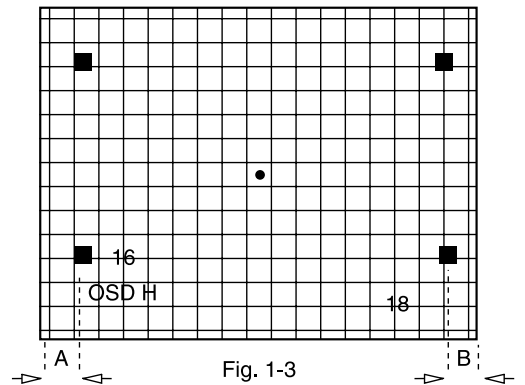

Fig. 1-3
- Use the volume keys on the jig remote controller to adjust each A and B positions on both left and right in the equal distance towards the screen edge in the OSD display. $A = B$ (Fig. 1-3)